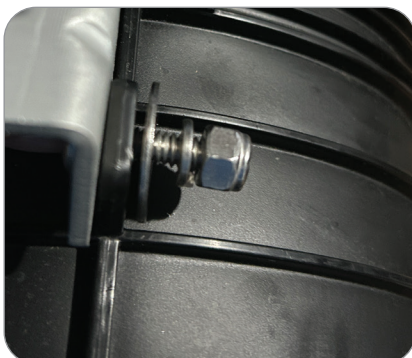

Figure 3
3. Install oversized flat fender washer, lock washer and Nylock nut. (**Figure 3**)